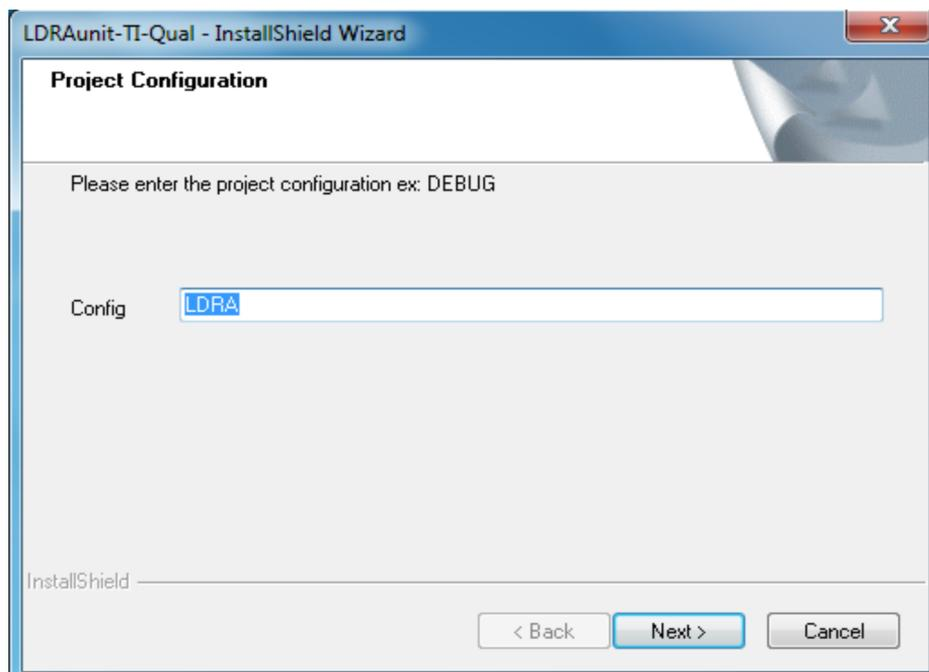

Figure 6. Project Configuration
7. LDRA unit – project configuration (see Figure 6).